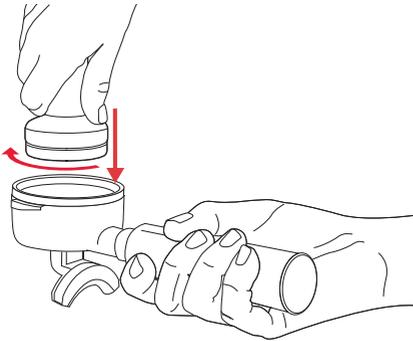

Figure 8
14. When the desired amount has been ground, tamp and twist the coffee grinds. See figure 8.